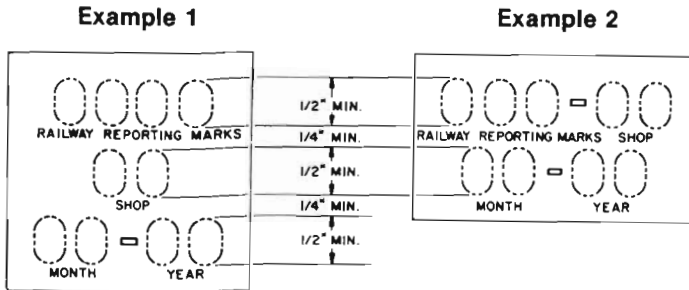

Figure 4
3.7.1 After Acceptance Test, a suitable surface of each portion must be stenciled in accordance with Figure 4. Minimum dimensions of letters to be ½" high.